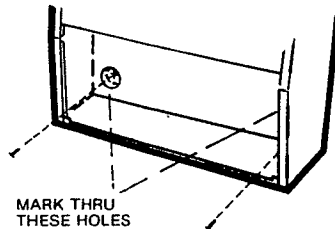

FIG. 6. LOWER FIXINGS
STEP 6. Mark the lower holes for drilling as shown in Figure 6. Remove heater and drill holes and secure anchors. Re-hang the heater and secure by fixing screws through the recessed holes located at the bottom of heater.